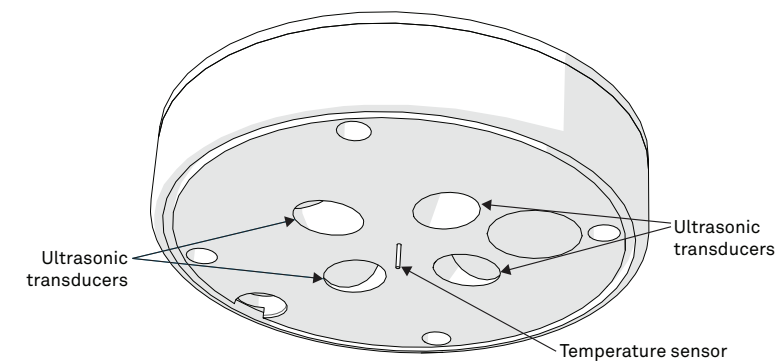

Figure 19 Temperature needle and ultrasonic transducers
NOTE: Do not allow water to enter the ultrasonic sensors (Figure 19). Water may corrode the metal parts inside the sensors and ruin them. Do not touch the temperature sensor when cleaning because it is very delicate and can be damaged if pushed into the ATMOS 41 body.
- **DO NOT** touch the temperature sensor needle (Figure 19).
- Avoid more than light pressure on the ultrasonic transducers (Figure 19).
2. Make sure nothing is obscuring the temperature sensor or the ultrasonic transducers shown in Figure 19 (cobwebs, leaves, wasp nests, etc.).
- c. Ultrasonic transducer openings (Figure 19)